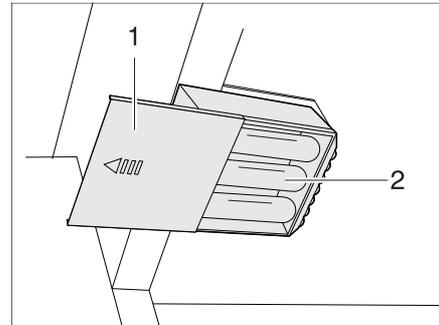

Fig. 183 Wardrobe light with LED, battery compartment opened
- Insert new batteries of the same type, observing the correct polarity (+/-) (Fig. 183,2).
- Push the cover (Fig. 183,1) back on.